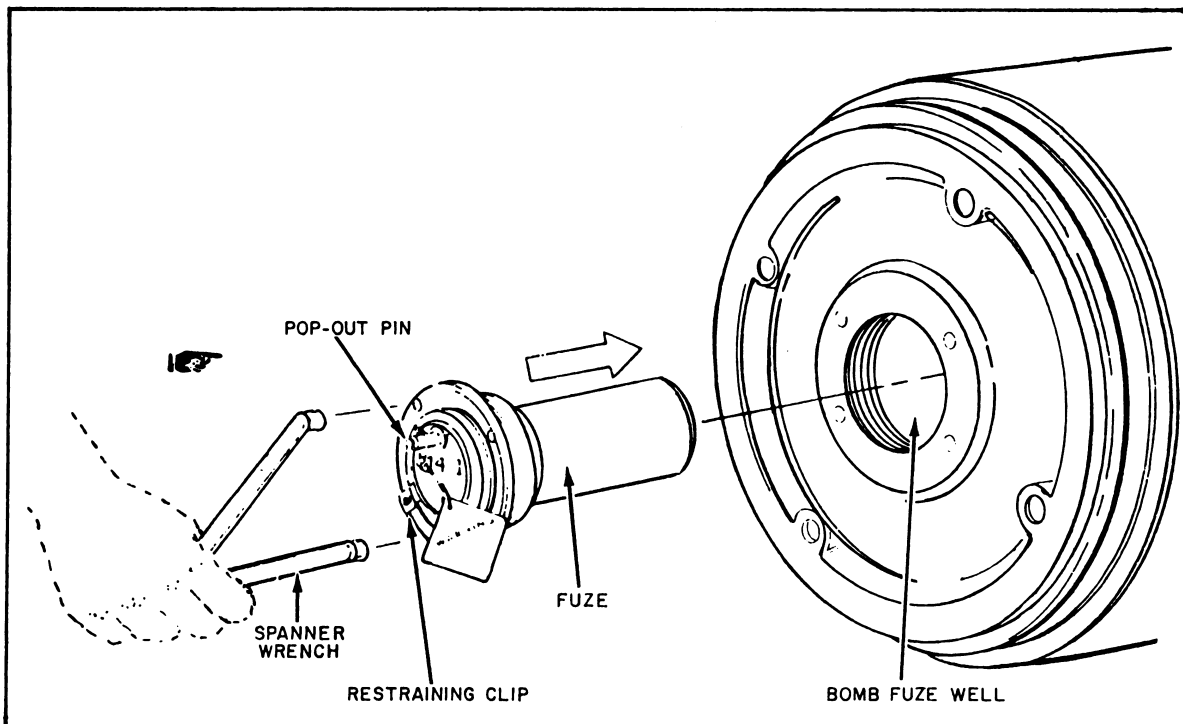

Figure 12-31.—Typical installation of an electric fuze in a Mk 80 series low-drag bomb.
11. Refer to figure 12-31. Insert the fuze into the tail fuze well and handtighten it. With a spanner wrench, tighten the fuze until the flange is seated against the bomb.